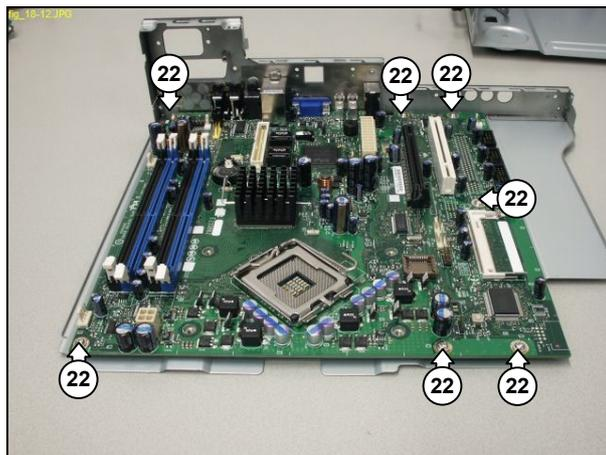

Figure 12.15-14
8. Remove the 7 mounting screws (22) from the motherboard tray base. See Figure 12.15-14.